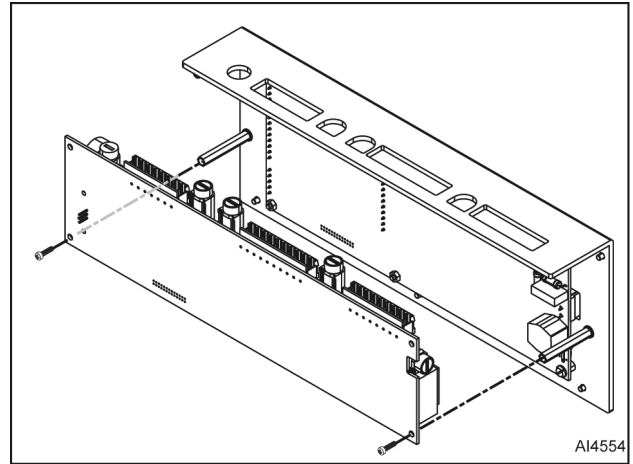

Fig. 10
4. Remove relay board (Fig. 10) from output control assembly.